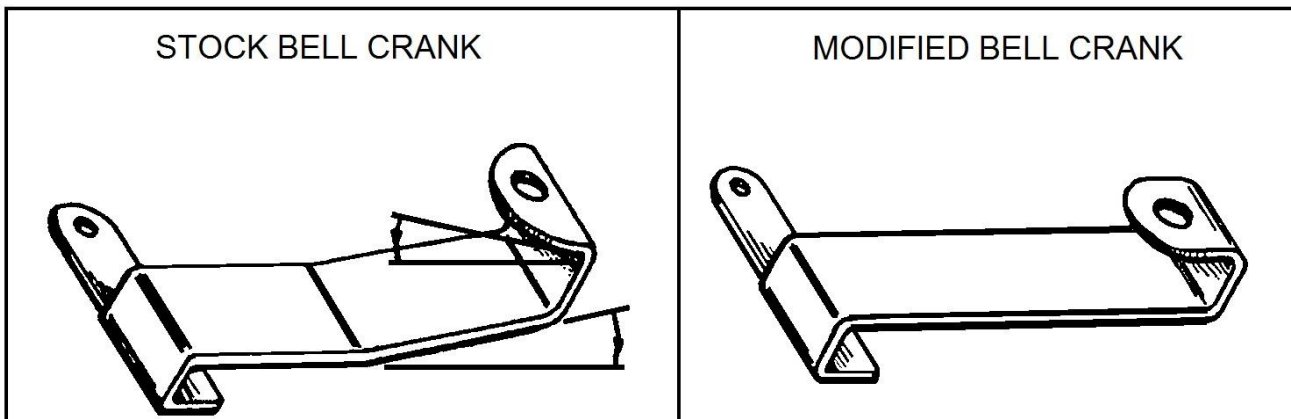

Figure 1
**NOTE:** Cars equipped with column shift linkage may require modification to the bell crank (see **Figure 1**).